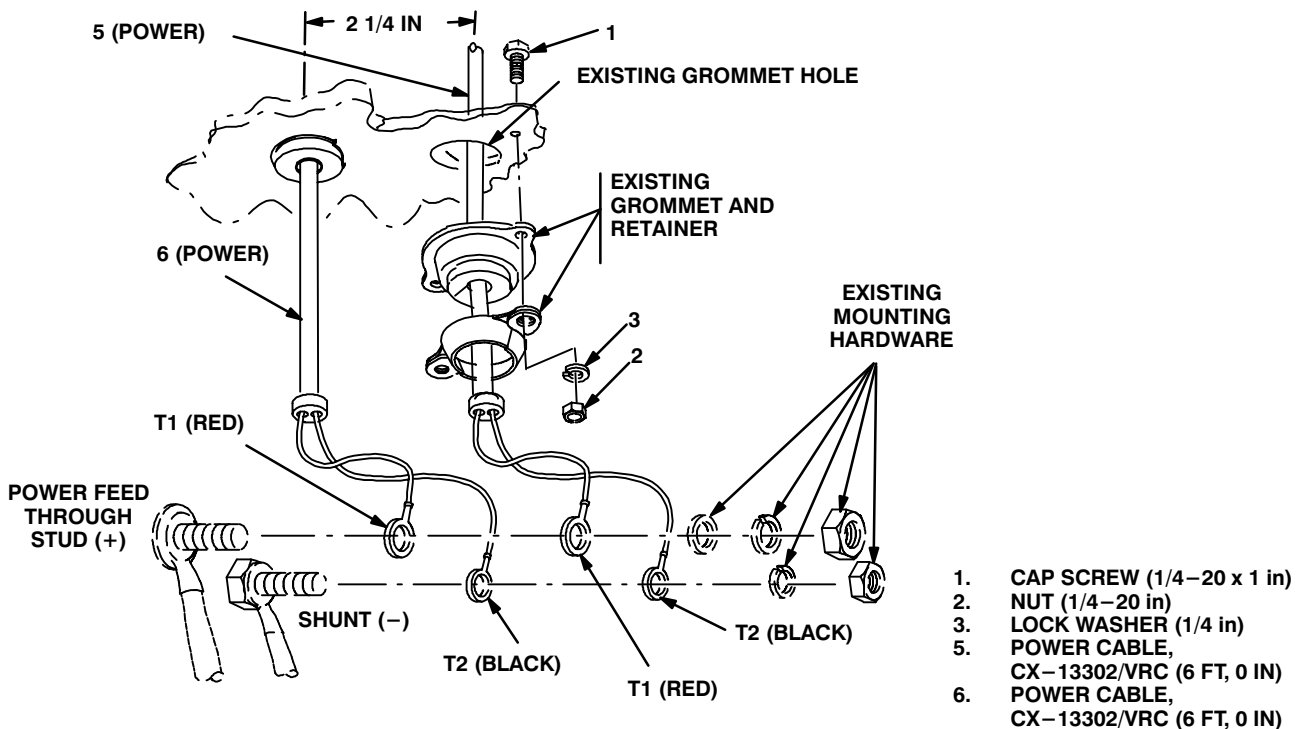

Figure 5-7 (6). Cable Installation: Power Cabling
cg. Utility compartment cover.	Reinstall. See figure 5-7 (1).